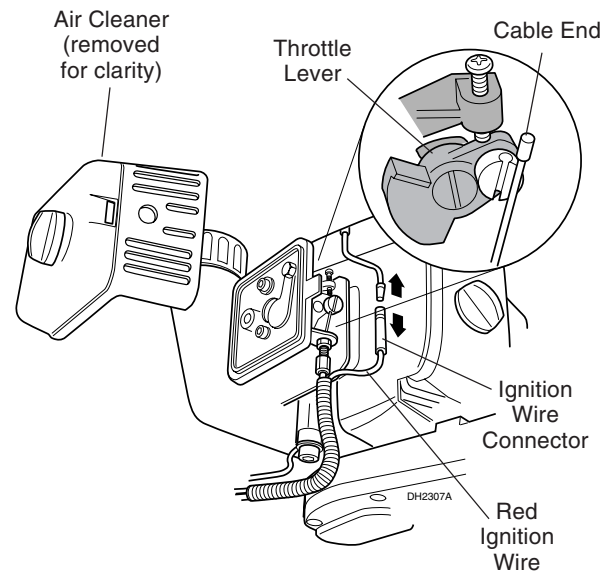

Figure 10. Disconnecting the Throttle Cable.
- STEP 1.** Disconnect the throttle cable end from the throttle lever on the carburetor (Figure 10).
- STEP 2.** Unplug the red ignition wire from the ignition wire connector (Figure 10).